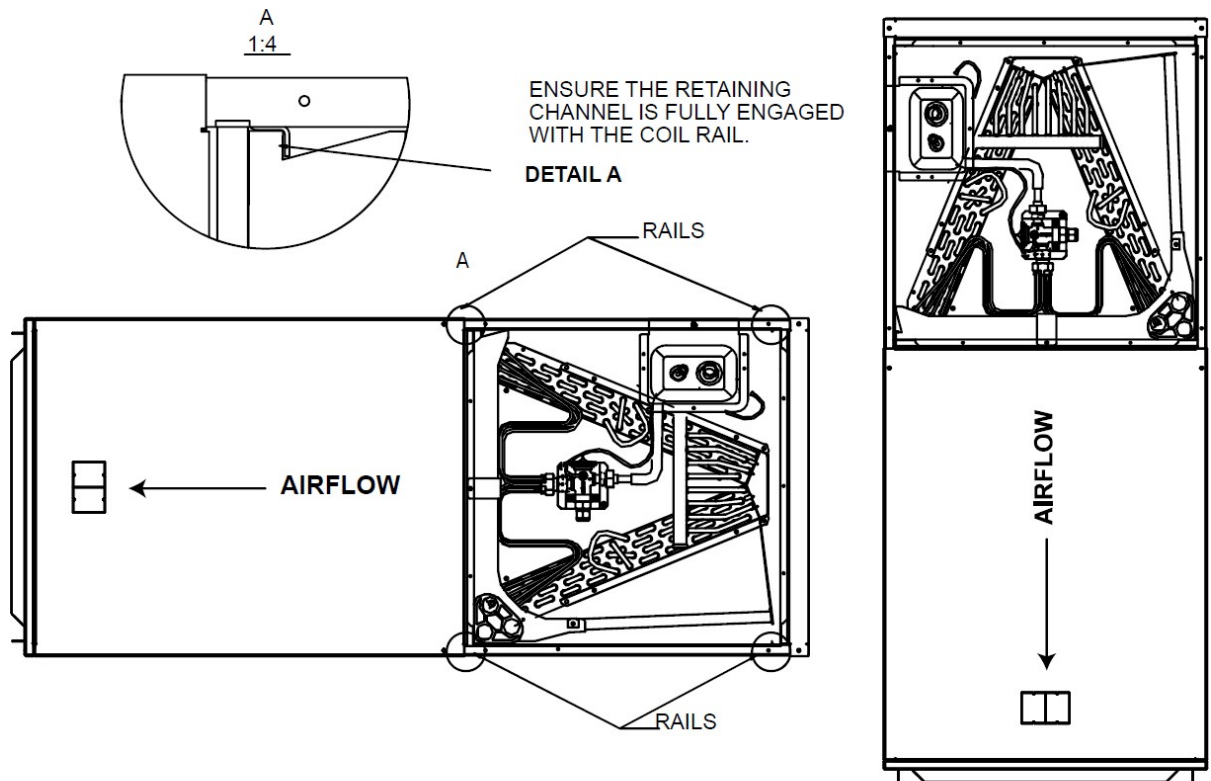

Figure 3-2 Horizontal left-flow and vertical down-flow and application
A vertical up-flow unit may be converted to vertical down-flow. Remove the front panel and take out the indoor coil assembly with drain pan, reinstall 180° from original position (Figure 3-2 and 3-3).
- Reinstall the indoor coil 180° from original position. Ensure the retaining channel is fully engaged with the coil rail (Figure 3-2 and 3-3).